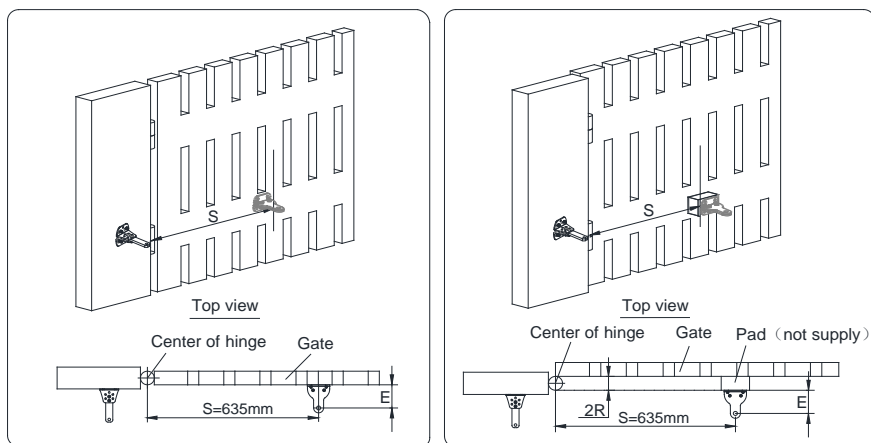

Fig.9
- Mark a vertical line around 635mm from the center of hinge. Fig.9